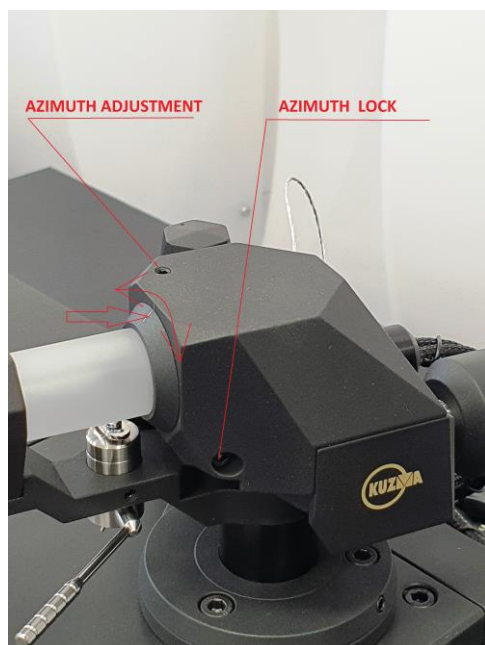

Fig. 16. Azimuth adjustment
To make azimuth adjustments, release the azimuth screw locking the mechanism on the side of the tube assembly, with Allen key 2.5 mm. Insert the Allen key 2 mm into the top screw, rotate it and it will alter the azimuth. (Fig. 16)